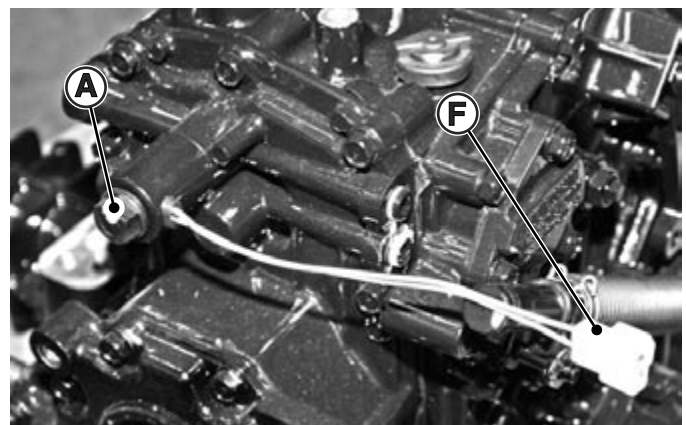

Fig. 7, Charge Pump Rotor
1. Disconnect solenoid connector (F) from wiring harness. (Fig. 7)